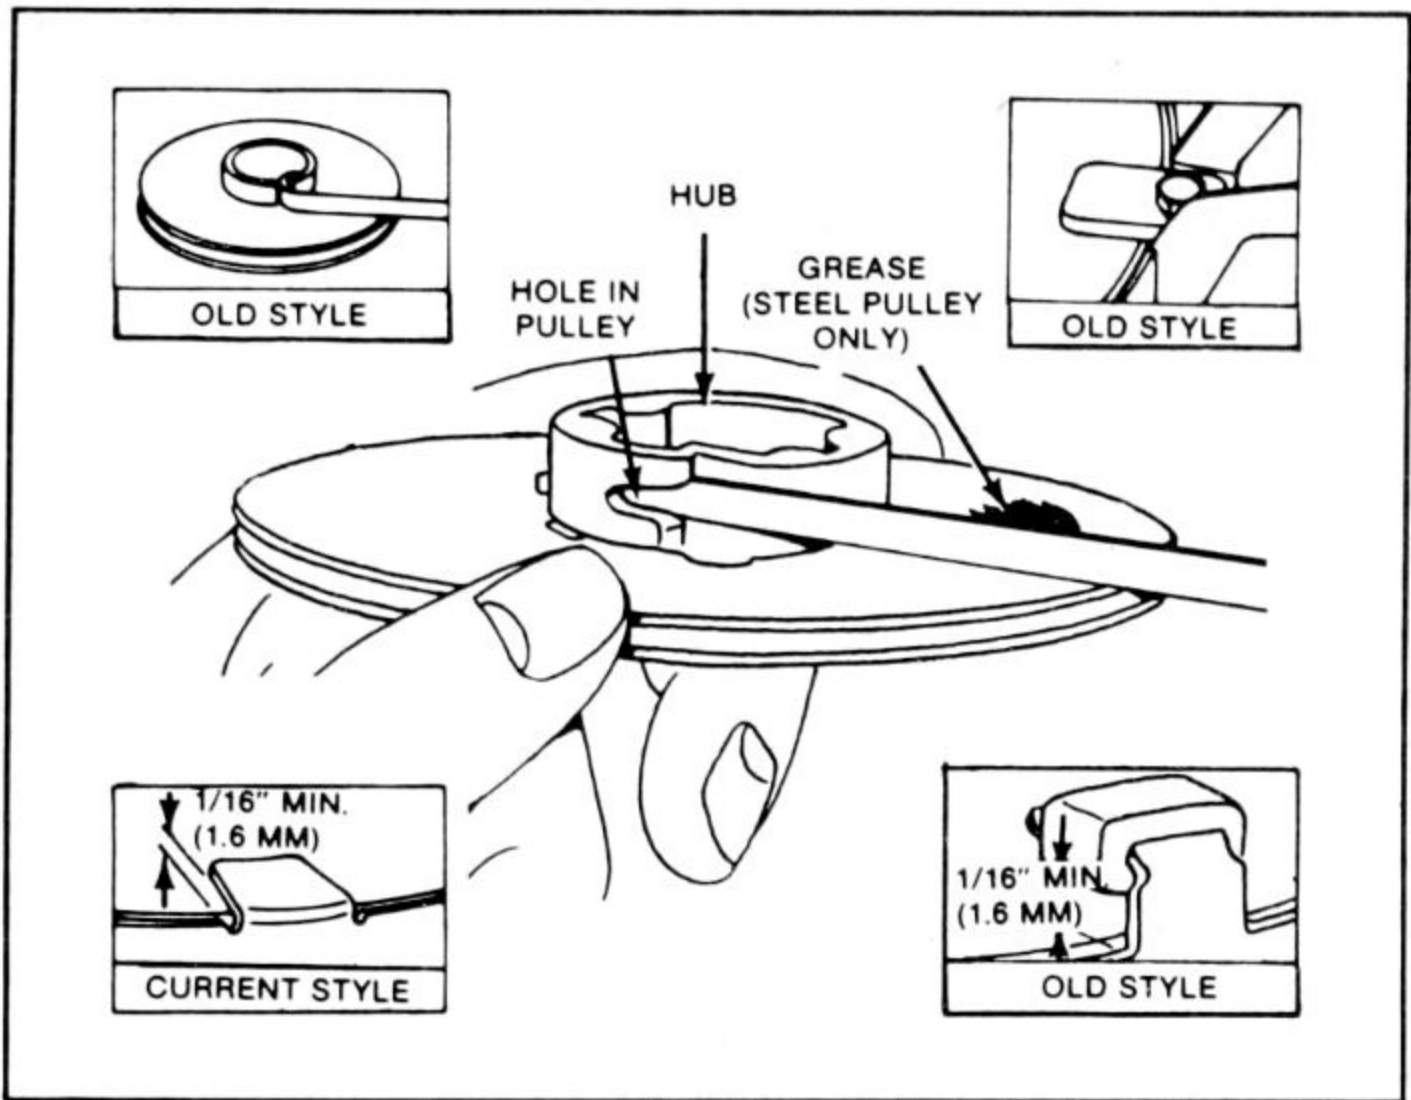

Fig. 4-6. Spring installation varies slightly with the date of manufacture. Steel sheaves require lubrication.
1. Dab a spot of grease on underside of steel sheave. Note that a plastic version requires no lubrication. See Fig. 4-6.